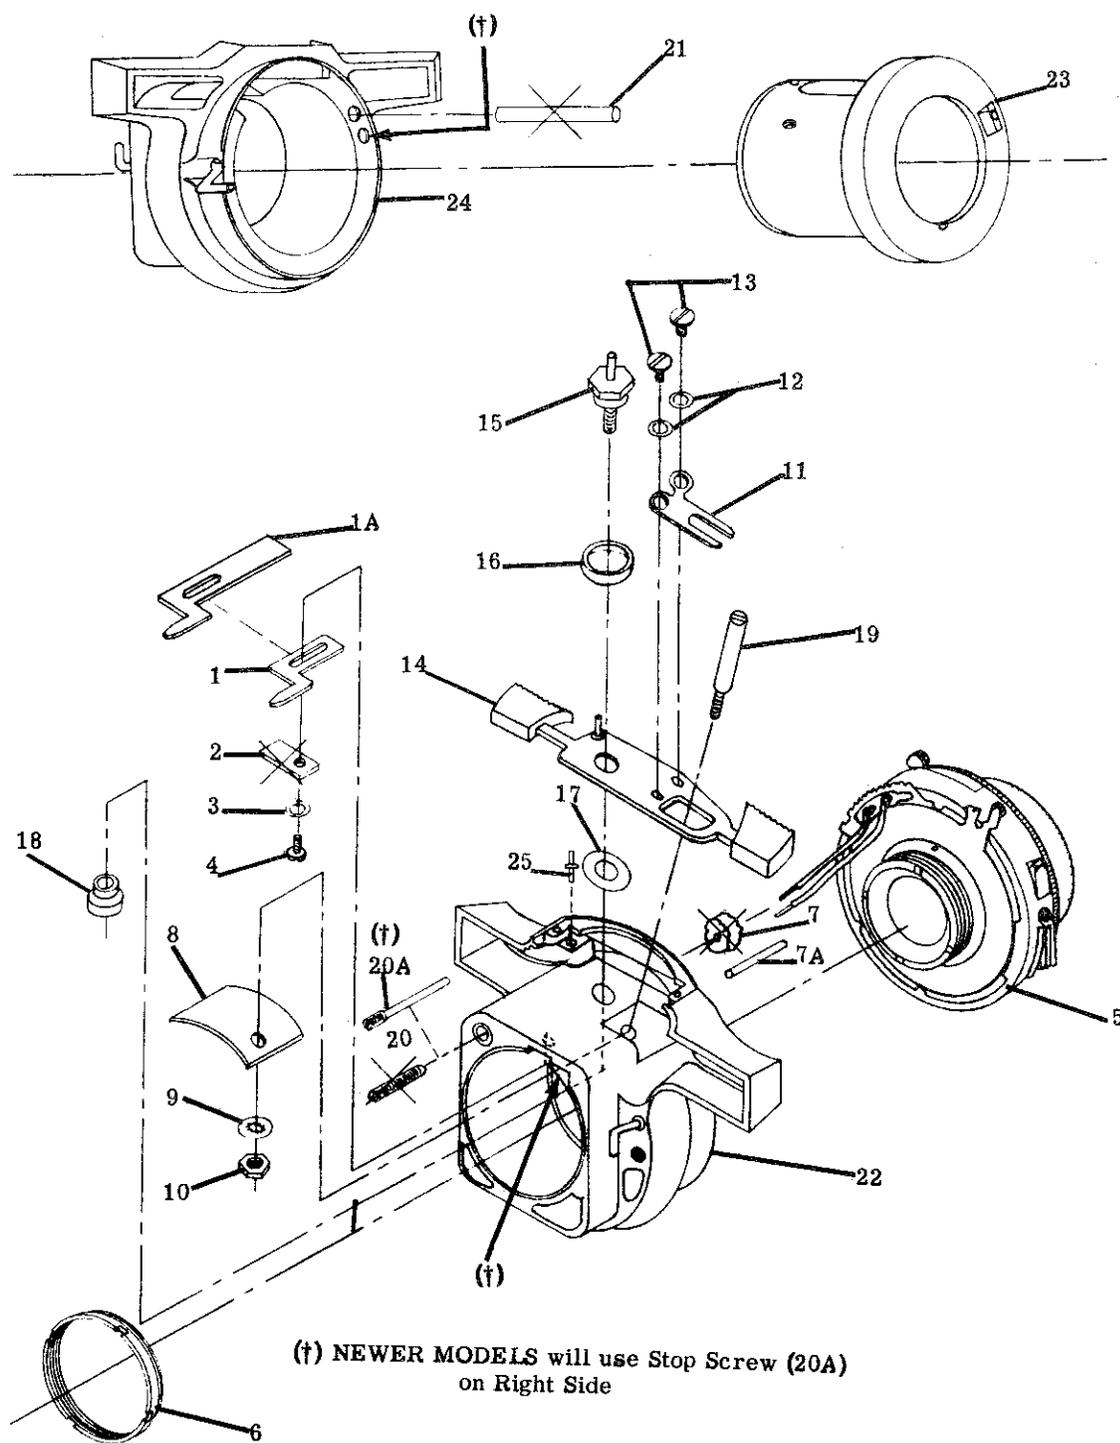

Figure 5. Mount Complete - Lens
A Focusing Scale Modification - all (NA) Not Available parts are replaced. Be sure to use Sector Gear Stud (25, figure 5.)